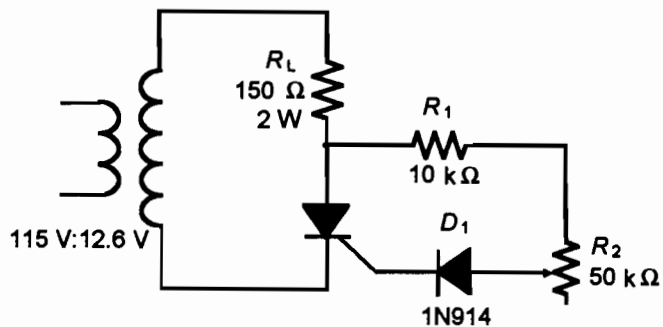

Figure 66.2
- Construct the circuit of Figure 66.2. Before applying AC power, recheck your circuit connections to ensure proper connections. Set the potentiometer  $R_2$  to approximately mid-point.